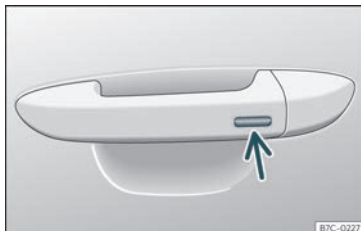

Fig. 91 Door handle: sensor surface.
- Press and hold the locking sensor surface >>> Fig. 91 (arrow) on the door handle to close the sunroof. If you release the sensor surface, the closing movement stops.